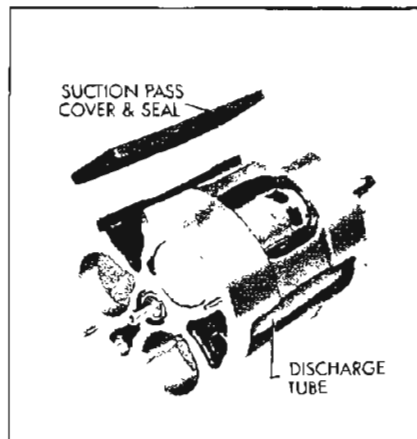

Figure 11-34—Suction Passage and Discharge Tube
8. Suction Pass Cover—The suction pass cover fits over a suction passage (see Figure 11-34) in the body at the cylinder assembly. A rectangular neoprene seal is used to insure proper sealing action along the edges of the cover. Low pressure vapor flows from the suction port through the suction passage in the cylinder assembly, and into the suction cavity of the front head.